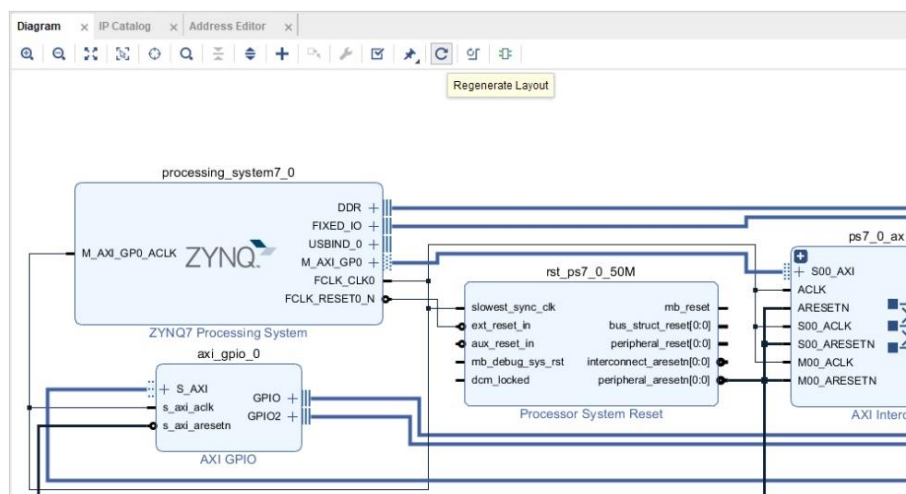

Figure 16
4. Start by regenerating the layout selecting the **Regenerate Layout** icon in the horizontal toolbar of the **Diagram** window (Figure 16) to rearrange our design